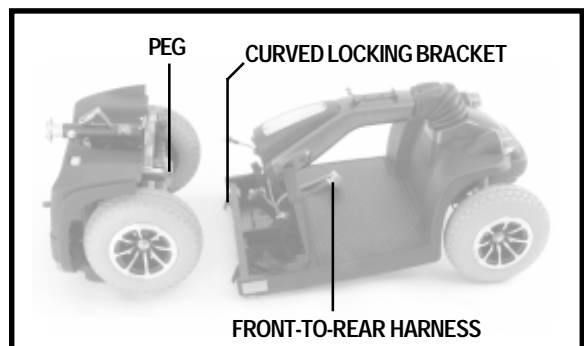

Figure 24. Frame Sections
2. Lift the front section up until the lower pegs are no longer in the slots. See figure 24.
1. Position the front and rear sections of your scooter as shown in figure 24.
2. Align the lower slots of the front section with the corresponding pegs on the front of the rear section. See figure 24.
**WARNING!** Position the front-to-rear harness so it will not become pinched between the frame halves when pivoting the rear section forward. See figure 24.